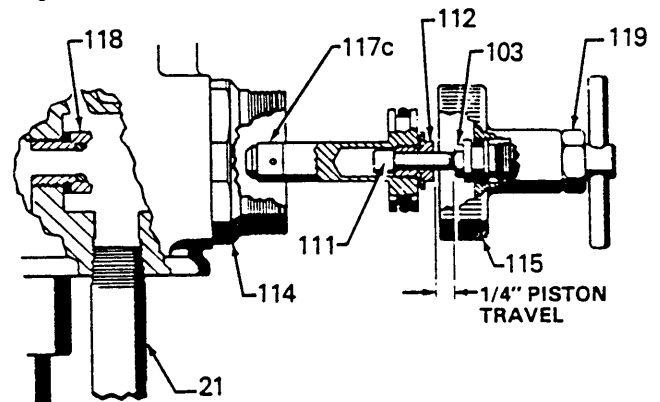

Fig 6
If further repair is needed, relieve pressure. Unscrew the valve housing (114) and seat (118) from the pump base. See Fig 6.
Check the piston travel. Unscrew the cap (115) from the housing. Check for a 1/4 in. (6 mm) clearance between the stop nut (112) and the jam nut (103). If adjustment is necessary, loosen the jam nut (103) and turn the adjusting stem (111) in or out until you obtain the proper clearance. See Fig 6. Tighten the jam nut.